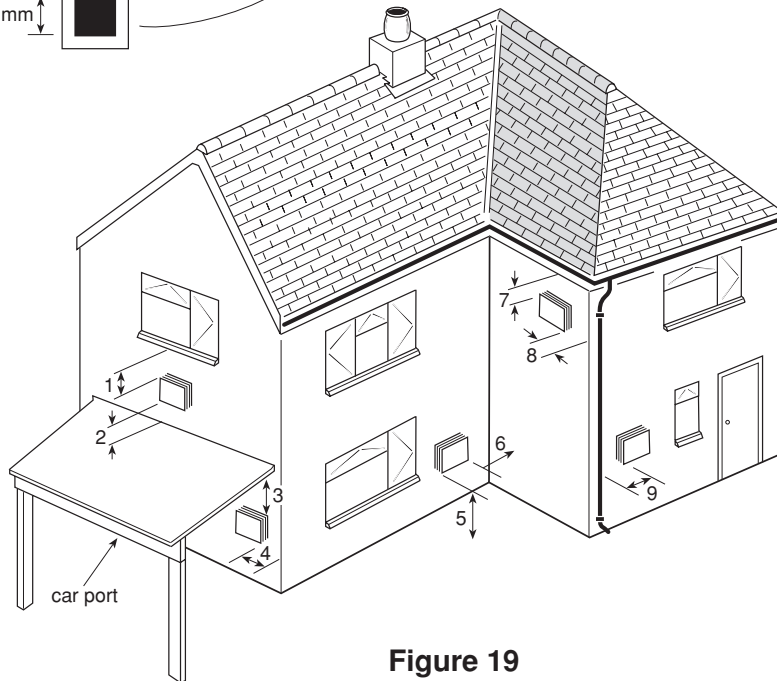

Figure 19
- (48) Identify the minimum terminal location dimensions indicated for the 22 kW natural draught balanced flue appliances shown in Figure 19. (Page 221.)